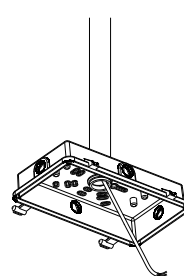

Figure 1-3
- 3.Fix the driver box cover on the 3/4 tube; Figure 1-3